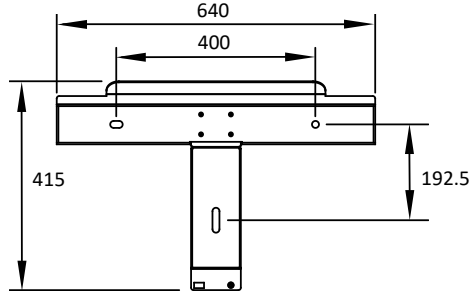

Figure 4.8 Dimensions of the mounting bracket (unit: mm)
- Step 1 : Position the mounting bracket onto the supporting structure. Dimensions of the mounting bracket can be seen in Figure 4.8.